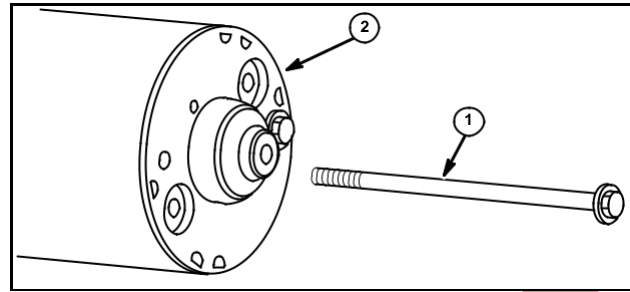

Fig. 34
5. Remove both starter motor thru bolts (1), Fig. 34, and separate end cap (2) from housing.